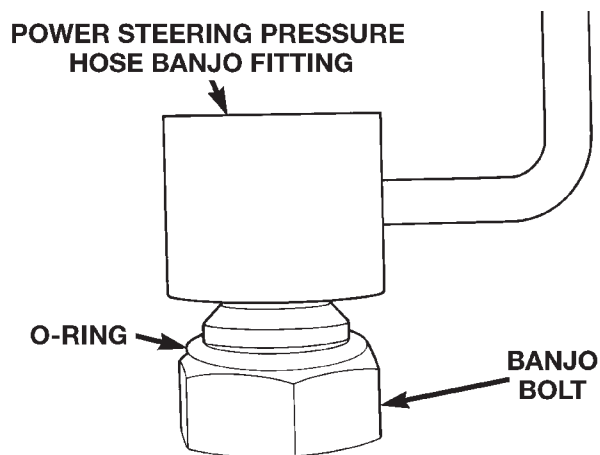

Fig. 15 O-Ring Installed On Banjo Fitting Bolt
(4) Install a new O-Ring (Fig. 15) on the Banjo Bolt of the power steering pressure hose Banjo fitting.
(5) Lubricate both O-rings using fresh clean power steering fluid.
(6) Install the Banjo Bolt into the power steering pressure hose banjo fitting (Fig. 15)